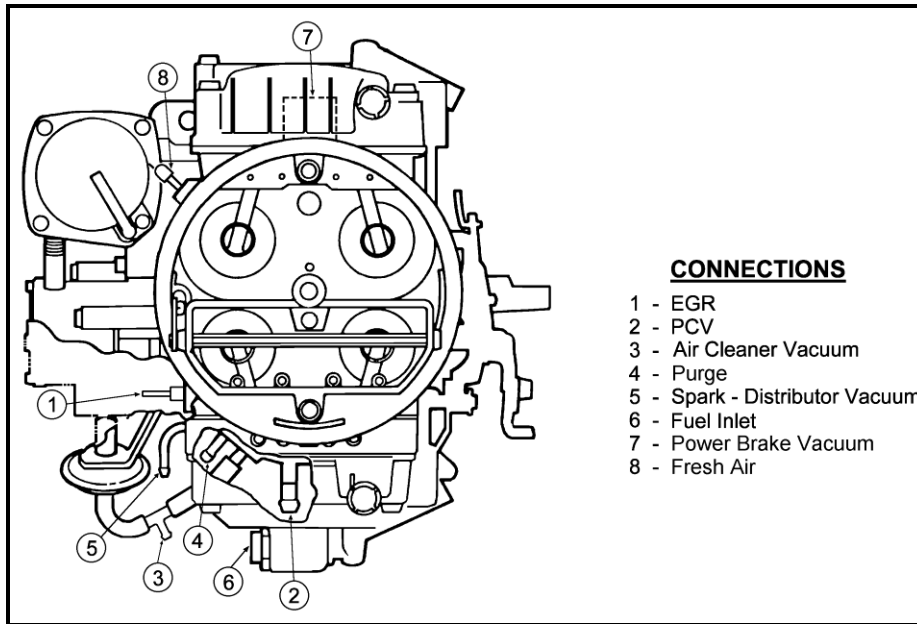

Figure 1
7. Reconnect all vacuum lines that were labeled in the removal of the old carburetor. Use **Figure 1** as a guide to locate the connections. The full manifold vacuum source in the front of the throttle body provides vacuum for proper operation of the air cleaner, the air pump diverter valve (if vehicle is so equipped) and/or the temperature sensing valve. The timed spark fitting in the choke side of the primary metering block provides vacuum for operation of the distributor vacuum advance. Connect the hose to the distributor, spark delay valve, and/or temperature-sensing valve. If vacuum for more than one component is needed, plastic "Ts" (available at most automotive parts stores) may be used to complete this installation. Plug any vacuum connections that are not used.
8. Connect the PCV hose to the PCV fitting in the carburetor. See **Figure 1**. Connect the solenoid wire to the original source wire.